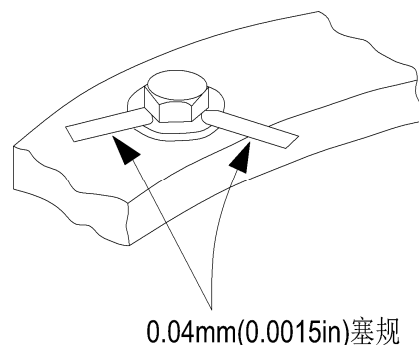

Figure 5-7
3. Insert the 0.04mm feeler gauge between the bolt and washer as shown by the arrow in Figure 5-7.